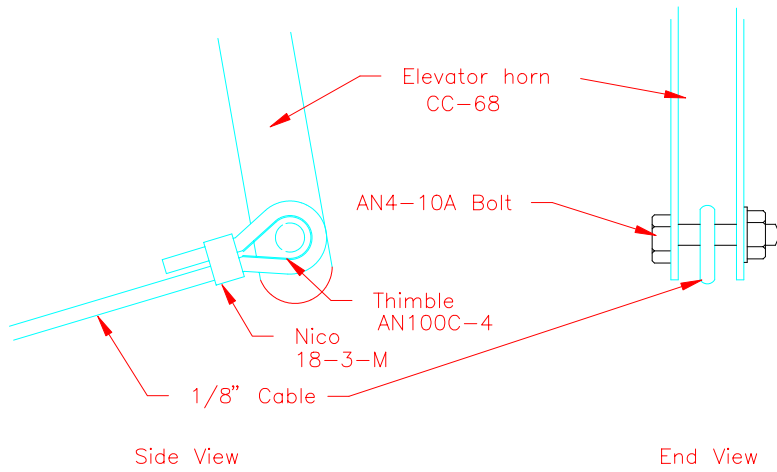

Figure 15.12.1
1) Assemble 1/8" cable and bolt to the elevator horn. Figure 15.12.1.
- 10) Assemble cable and attach to the outermost holes in the rudder horn. See figure 15.12.1 for assembly.